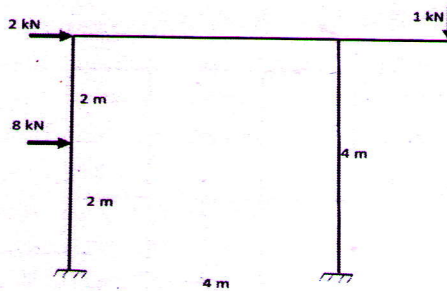

Figure 6
- b) Determine the equivalent joint load for the frame loaded as shown in Figure 6 (6)